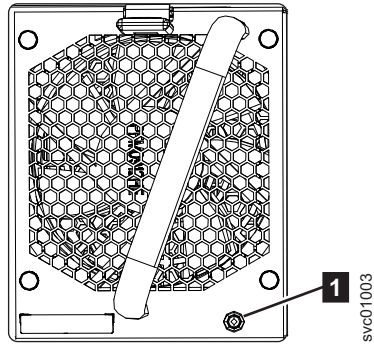

Figure 90. Fan module LED
1. Identify the fan module to be replaced. When lit, the amber LED on the front of the fan module (**1** in Figure 90 on page 111) identifies a fault.